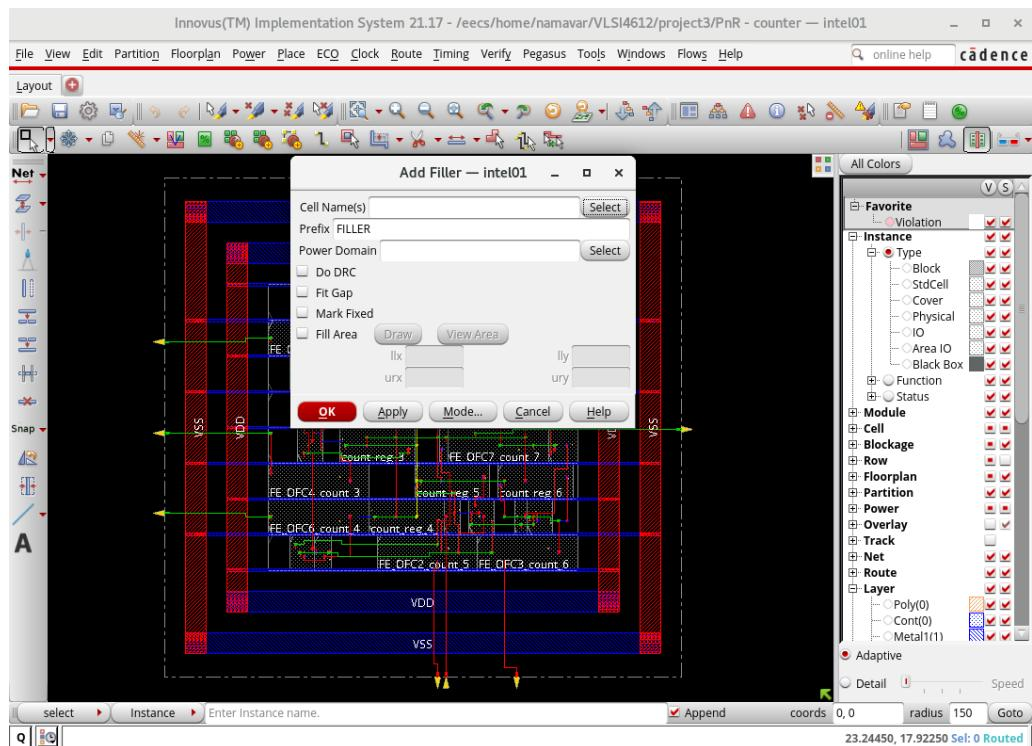

Figure 22: Add Filler window in Innovus.
2. The **Add Filler** window will appear, as shown in Figure 22.